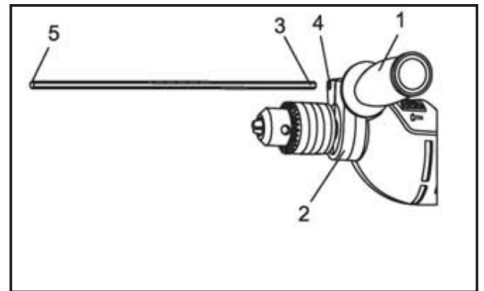

Fig.8
1. Turn the assist handle (1) counter clockwise to open the mounting collar (2) (Fig. 8).
2. Insert the hexagon depth rod (3) into the matching hole in the assist